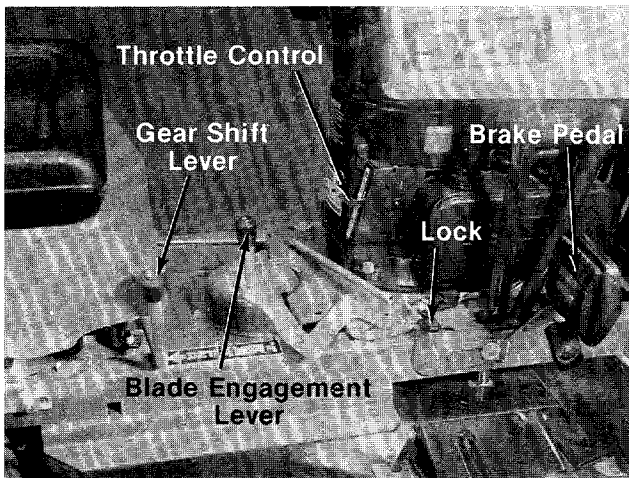

FIGURE 11.
- A. Throttle Control actuates the butterfly in the carburetor and may be set at CHOKE, FAST or SLOW. See figure 11.
- D. The Blade Engagement Lever engages and disengages the blade. Pull the Blade Engagement Lever back to stop the blade. Move the Blade Engagement Lever forward to engage the blade. See figure 11.
- E. The Gear Shift Lever is used to select either forward or reverse. See figure 11.
- G. The Brake Pedal is operated with your right foot and is used to stop the forward or reverse motion of the rider. To engage the brake, depress the Brake Pedal with your right foot. To set the parking brake, depress the brake and lift the lock. To release, depress the brake pedal. See figure 11.
3. Depress the brake pedal and lock it down with lock. See figure 11.
- Place the gear shift lever in "NEUTRAL" (N) position. See figure 11.
- Place the blade engagement lever in the "OFF" disengaged position. See figure 11.
- Place the throttle control lever in the "CHOKE" position. See figure 11.